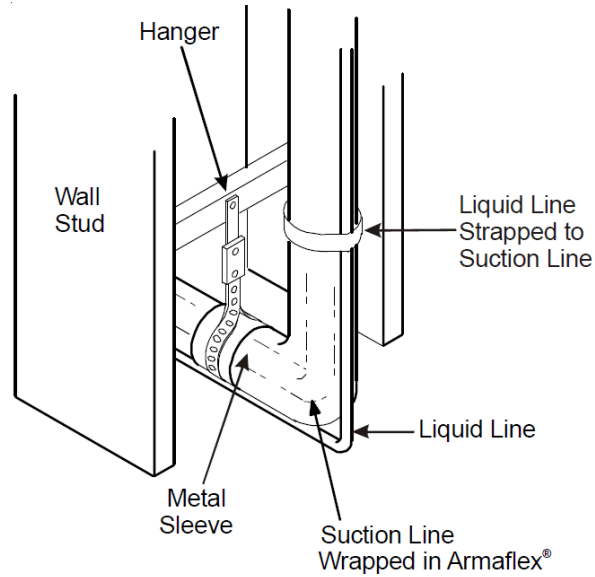

Figure 1-1
11. Vibration and Noise: In long line applications, refrigerant tubing is highly prone to transmit noise and vibration to the adjoining structure. Use adequate vibration-isolating hardware when mounting line set to structural members. See Figures 1-1, 1-2 and 1-3 for example of proper mounting.